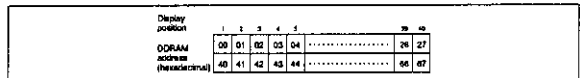

Figure 4 2-Line Display
1.2 2-line display (N = 1) (Figure 4)